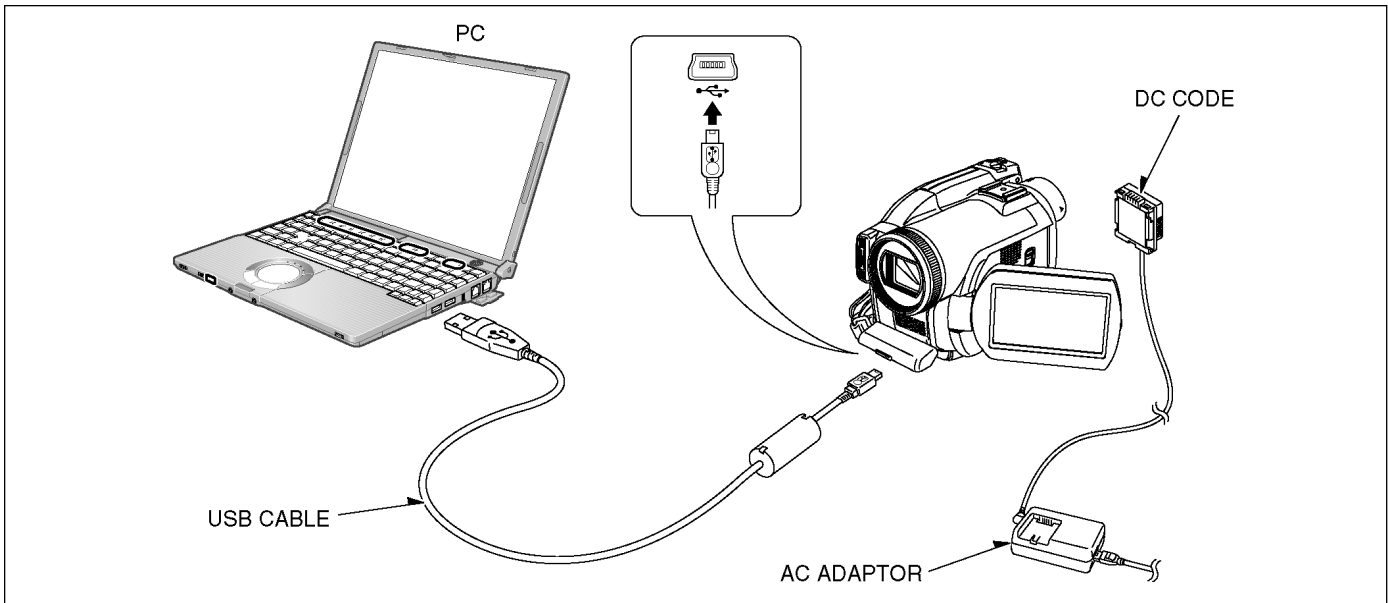

Fig. E1
c. Connect the PC and DVD Video Camera as shown in Fig. E1 and E2.